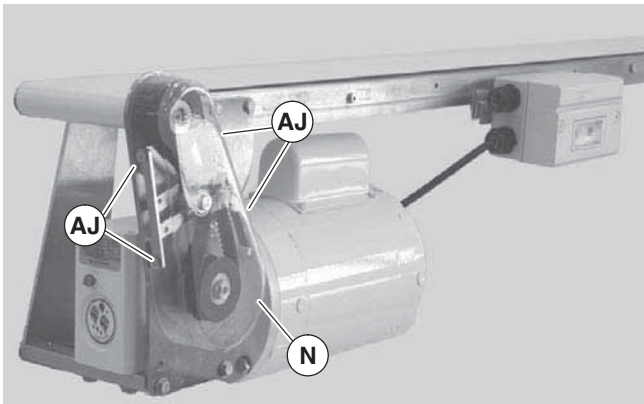
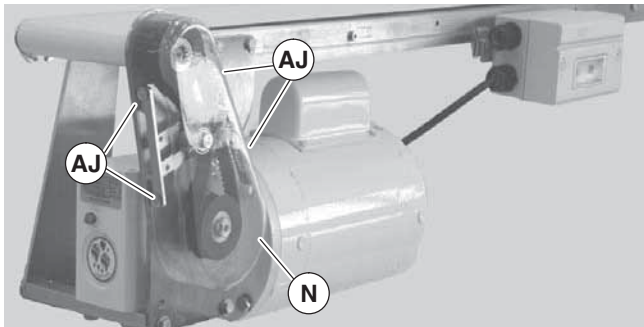

Figure 36
Figure 45
Figure 36 through Figure 45 shown gear reducer replacement procedure for a timing belt drive. Timing chain drive is similar except as noted.
1. Loosen four (4) screws (Figure 36, item AJ) and remove cover (N).
11. Attach cover (Figure 45, item N) with screws (AJ). Tighten screws to 35 in-lb (4 Nm).